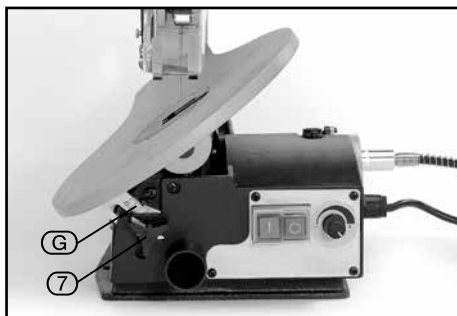

FIG. 5
9.4 CHECK TABLE ALIGNMENT – FIG. 5